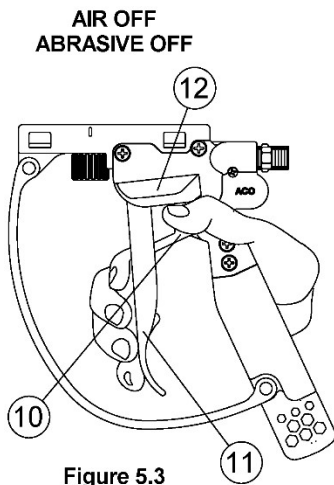

Figure 5.3
- 5.12 Place the thumb on top of safety flap (#10) and just under the curved safety flap guard (#12) on the trigger deadman handle. Thumb must be placed in the proper location to easily move the safety flap (#10) down to allow the trigger (#11) to move to the blast position. (See Figure 5.3) Only place thumb in ready position when ready to blast. Refer to video link on previous page.